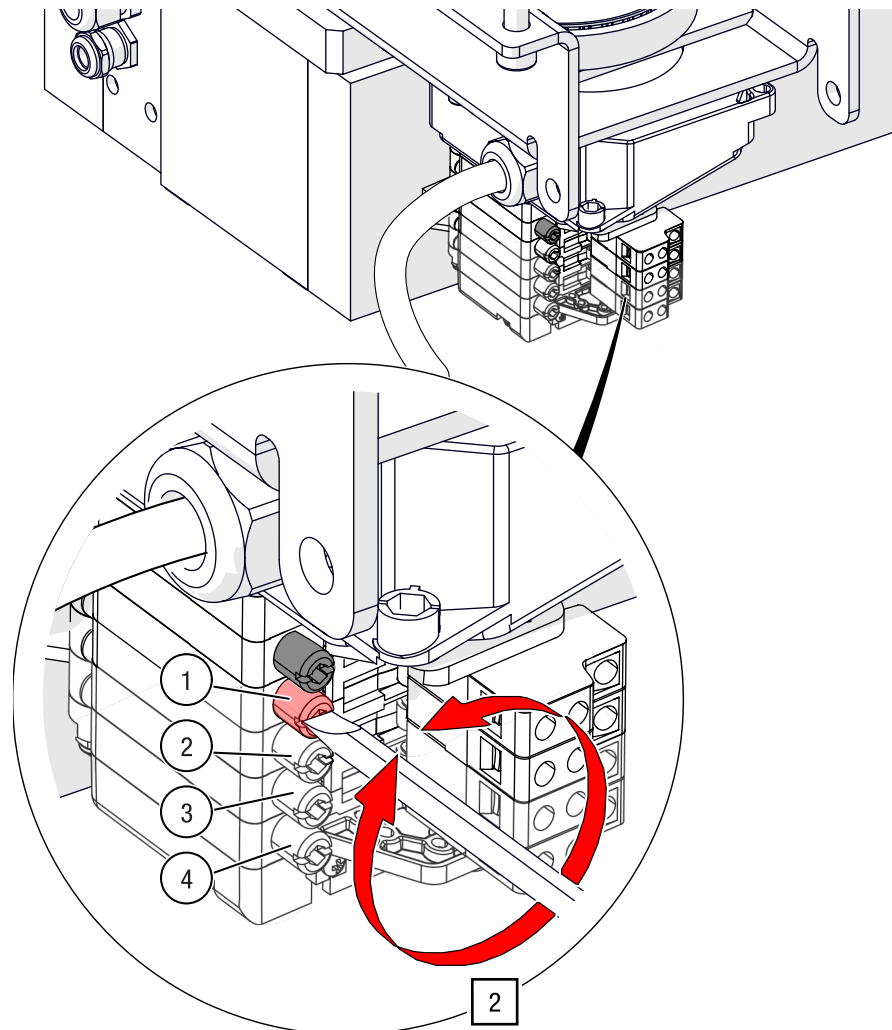

Fig. 97: Setting emergency limit switches – Adjust adjustment wheels
2. Move the corresponding limit switch positions by turning the adjustment screw with a slotted screwdriver / Allen key AF 4 clockwise (open) and anticlockwise (close) (see Fig. 97).